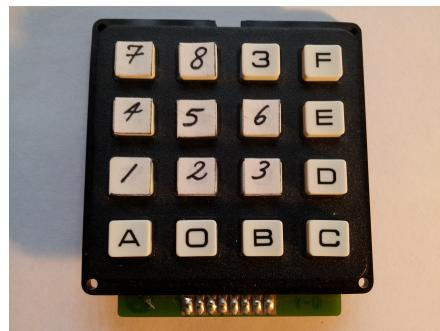
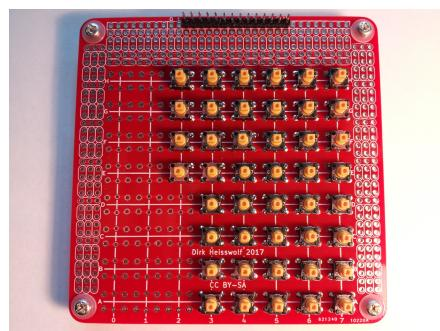

Figure 4: 4x4 matrix keypad by EOZ, with some key labels attached
Figure 5: Custom 8x6 matrix keypad
4. A matrix keypad. Standard 4x4 matrix keypads (Figure 4) work well but an 8x6 keypad (Figure 5) allows more functions to be added easily. Interfacing to each type of keypad is covered in Chapter 4. The 8x6 matrix keypad shown was designed by Dirk Heisswolf and manufactured by Seeed Studio. The files are available at <https://github.com/DanielMilutinovic/MC-II> if you would like to order the PCB (Seeed Studio has a minimum order of 10 PCB's). If making the 8x6 matrix keypad you will need to solder 0.1" (2.54mm) male headers and 44 push buttons to the PCB. I used Omron 6x6 tactile switches, part no. B3F-1052. Alternatively, I have several PCB's left and can build an 8x6 keypad for you (contact me at daniel.milutinovic@yahoo.com.au).